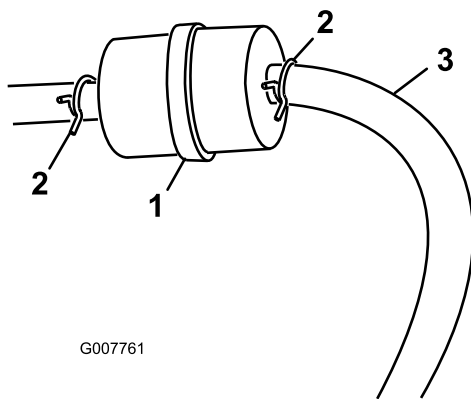

Figure 23
3. Squeeze the ends of the hose clamps together and slide them away from the filter (Figure 23).
5. Install a new filter and move the hose clamps close to the filter (Figure 23).
3. Loosen the hose clamp at the fuel filter and slide it up the fuel line away from the fuel filter (Figure 23).
4. Disconnect the fuel line from the fuel filter (Figure 23).
Note: Allow fuel to drain into a fuel container can or drain pan (Figure 23).
5. Install the fuel line onto the fuel filter. Slide the hose clamp close to the fuel filter to secure the fuel line (Figure 23).